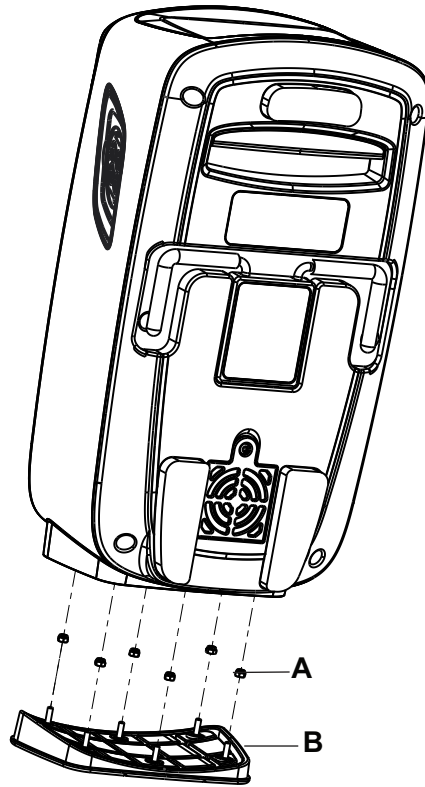

Figure 19 – Foot
2. Using a ratchet and a 6 mm socket, remove the six nuts (A) that secure the foot (B) to the front pump housing (Figure 19). Save the nuts.